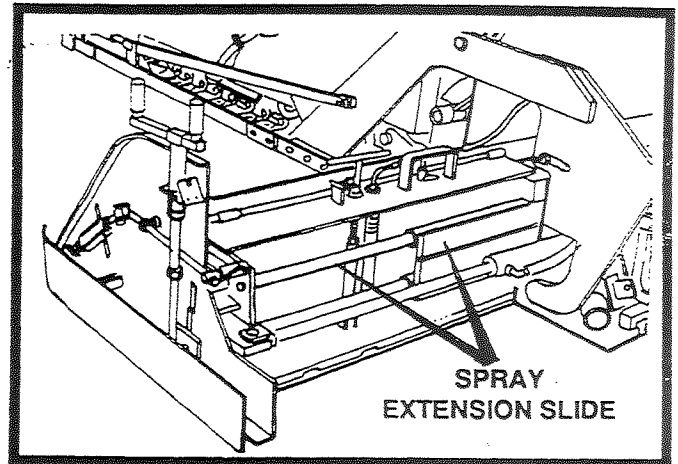

FIGURE 27
6. Grease extension slide with multi-purpose grease or spray with fuel oil at points shown in figure 27.